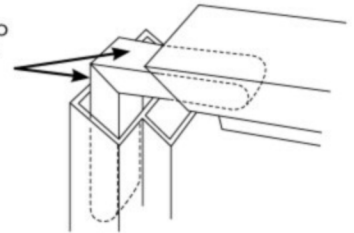

Fig. 2.1
- Insert the corner key, making sure the mitered corner is clean, tight and in alignment. Hold firmly till set (10 to 20 seconds). (See Fig. 2.1)